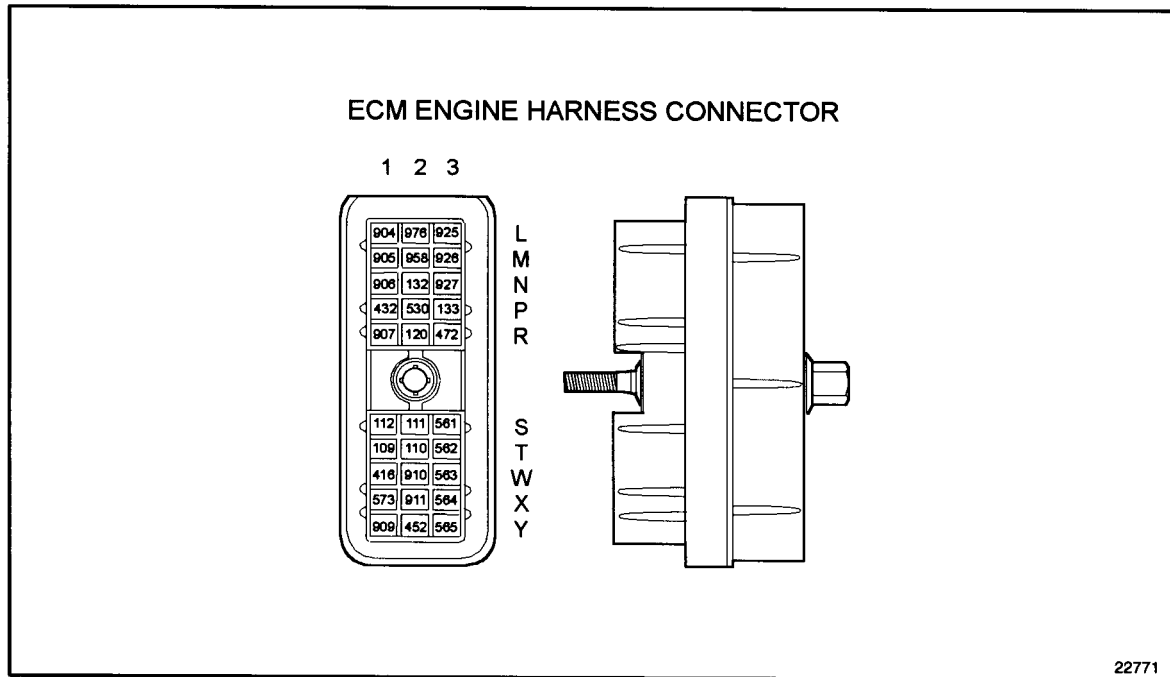

Figure 15-8 ECM Engine Harness Connector
1. Check terminals at the ECM engine harness connector (both sensor and harness side) for damage: bent, corroded and unseated pins or sockets. Check terminals R2 and Y2 of the ECM connector. See Figure 15-8.